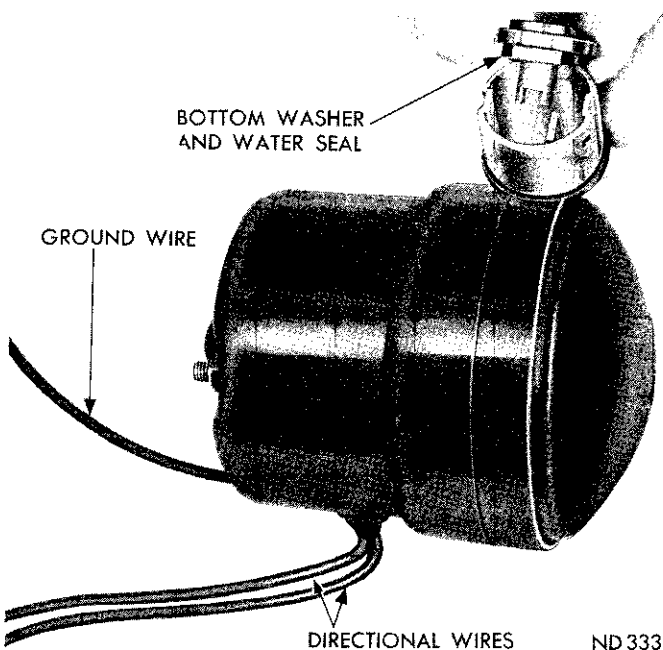

Fig. 7—Removing Bottom Insulator and Water Seal Washer (Typical)
(7) Remove bottom insulator and water seal washer (Fig. 7) from tubular fitting using a wire hook and long nose pliers.